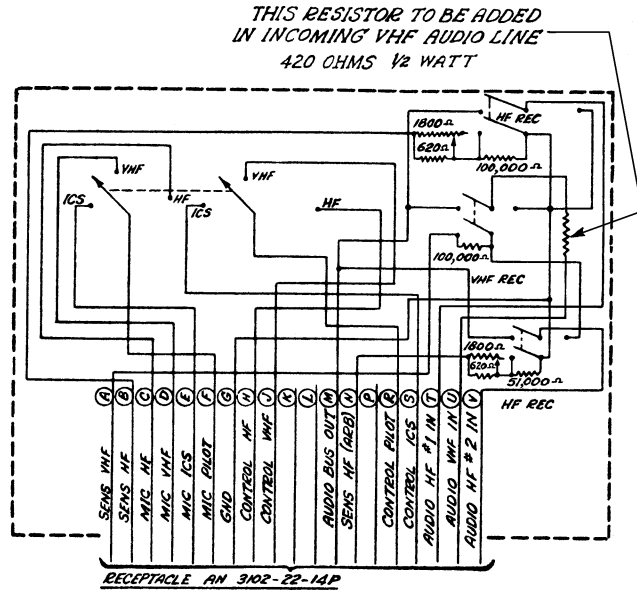

Figure 2—Modification of C-126/ARC Mixing Console Unit
5. The wiring in this unit should now be in accordance with BuAer drawing E-1268 (Fig. 2).